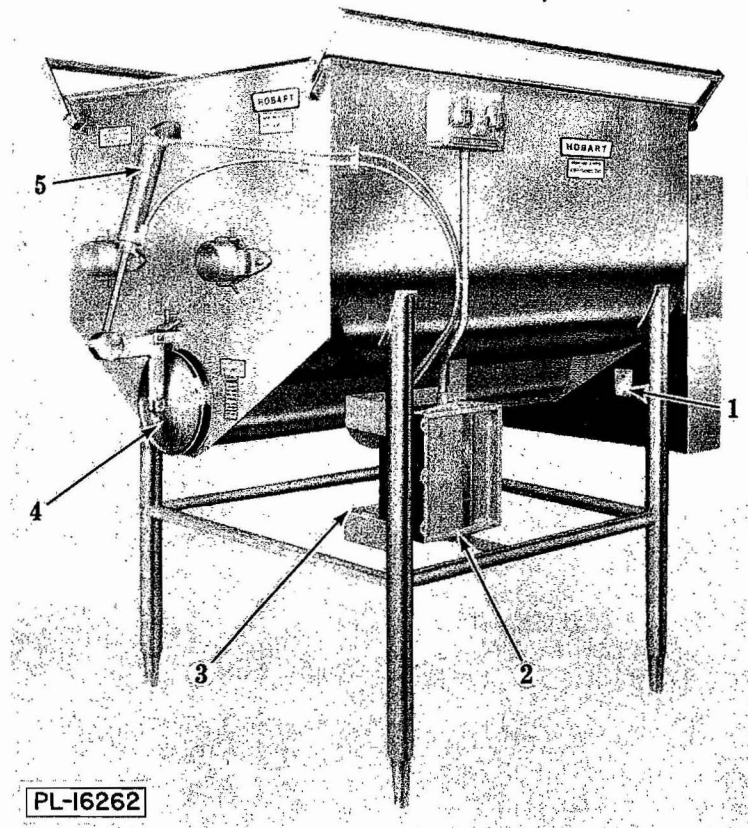
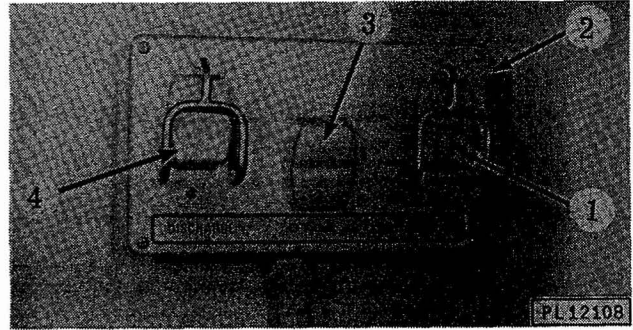
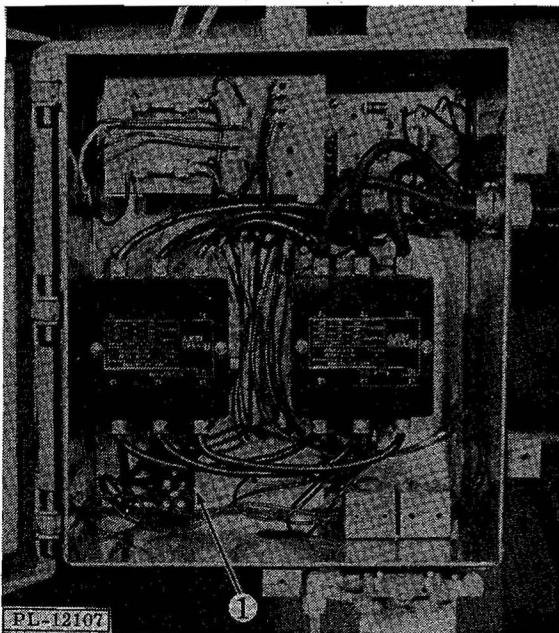

Fig. 1
Fig. 3
Fig. 2
All internal wiring of the machine is completed before machine is shipped. Before making any electrical supply connections, CHECK THE SPECIFICATIONS ON THE SERIAL PLATE (1, Fig. 1) TO MAKE SURE THEY AGREE WITH THOSE OF YOUR ELECTRICAL SERVICE.
Connect the individual branch electrical power supply lines to the terminal block (1, Fig. 2) inside the contactor box. (See wiring diagram attached inside of contactor box lid). A 1-5/16" dia. hole (for 1" conduit) is provided in the bottom of the contactor box (2, Fig. 1) for this connection. Circuit conductors and fuse protection should conform to local as well as national code requirements.
With "Discharge" switch (4, Fig. 3) actuated, conveyor screw should rotate counterclockwise when operator is facing the discharge door end of hopper (4, Fig. 1). If rotation is not counterclockwise, interchange any two power supply leads to the terminal block (1, Fig. 2).
Connect the air supply line to 1/4" pipe fitting (3, Fig. 1). Air supply must have a 40 p.s.i. minimum for proper operation of air cylinder for discharge door. Air supply should not exceed 125 p.s.i. and be clean and dry.
The switches (1, 3 & 4, Fig. 3) for starting and stopping machine, are located on the control box (2, Fig. 3). The "Mix" switch (1, Fig. 3) provides mixing with the discharge door sealed.
1. Press "Stop" switch (3, Fig. 3).
2. Actuate "Discharge" switch (4, Fig. 3).
An electrically operated valve controls the air flow from the air cylinder (5, Fig. 1). The discharge door automatically opens when the "Discharge" switch is actuated and automatically closes during mixing operations.